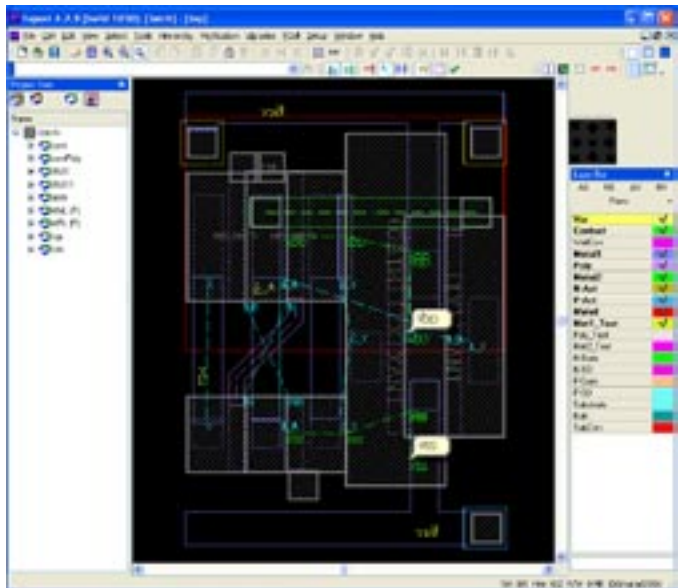
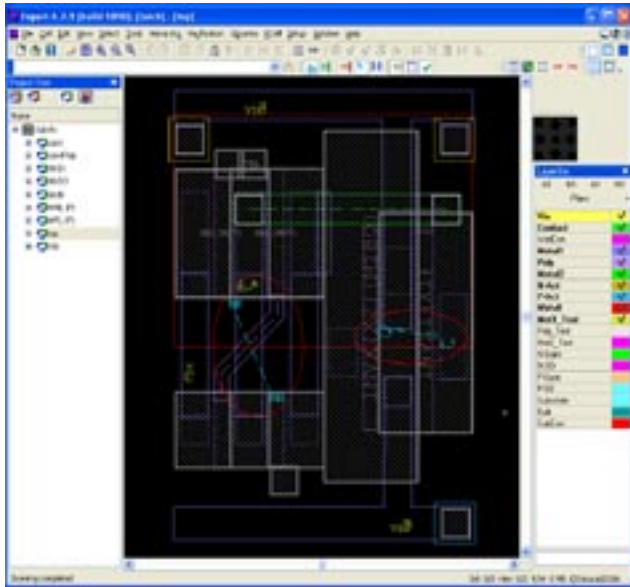

Figure 7. Edited Layout view before re-extraction.
Figure 8. Edited Layout view after re-extraction to show Unfinished Nets Only.
- Edit the cell "top" until it looks like the following Figure 7, which has improved placement and wiring added. Till this point the layout may appear messy. To avoid this, the user can check 'Tools → NDL → Unfinished Nets Only', then press 'Update Connectivity' or use 'Reextract' button in NDL tool bar to show flight lines that include unconnected pins.
- 'Tools → NDL → Closest Points Only' shows parts of unfinished nets that represent missing connections (use 'Update Connectivity' or 'Reextract' to update display). With this feature, *Expert* NDL can provide users with updated connectivity from time to time, assisting user to finish the connectivity. It can be seen from Figure 7 and Figure 8 that the connectivity has been updated after reextraction.